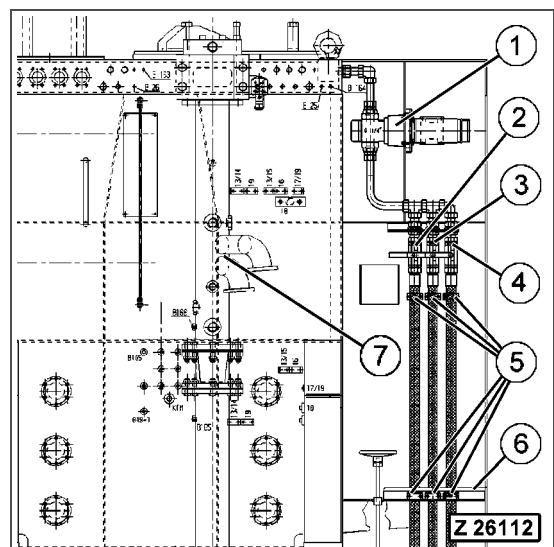

Fig. 3-81
8. Disconnect all hydraulic lines from the return oil collector tube (Fig. 3-81, Pos. 7).
9. Shut the cock valves at the hoses (Fig. 3-81, Pos. 2 - 4) and disconnect the hoses behind the transfer pump (Fig. 3-85, Pos. 1) but directly in front of the cock valves.
10. Loosen the clamps (Fig. 3-81, Pos. 5) to clear hoses from the hydraulic oil reservoir.
11. Remove the grating (Fig. 3-81, Pos. 6).